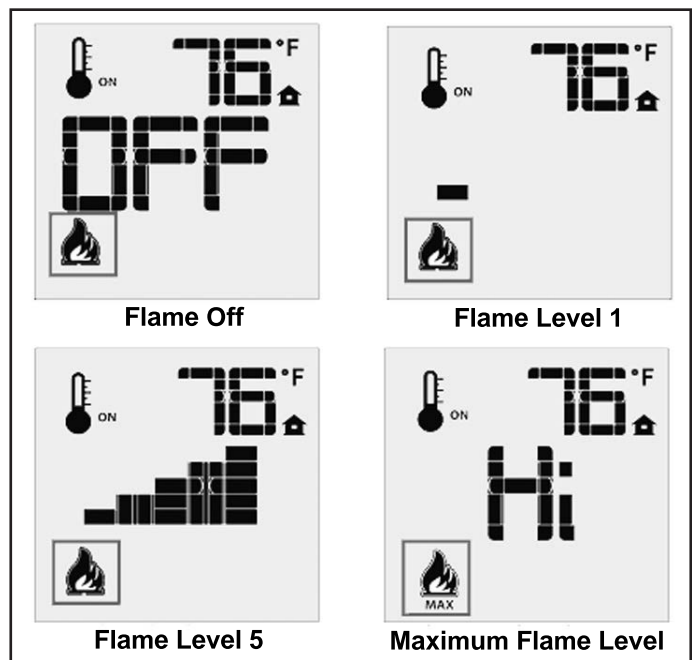

Figure 12: Remote Control's Flame Levels.
The Proflame 2 GTMF has six (6) flame levels. With the system on, and the flame level at the maximum in the appliance, pressing the Down Arrow Key once will reduce the flame height by one step until the flame is turned off. The Up Arrow Key will increase the flame height each time it is pressed. If the Up Arrow Key is pressed while the system is on but the flame is off, the flame will come on in the high position (refer to Figure 12). A single “beep” will confirm reception of the command.